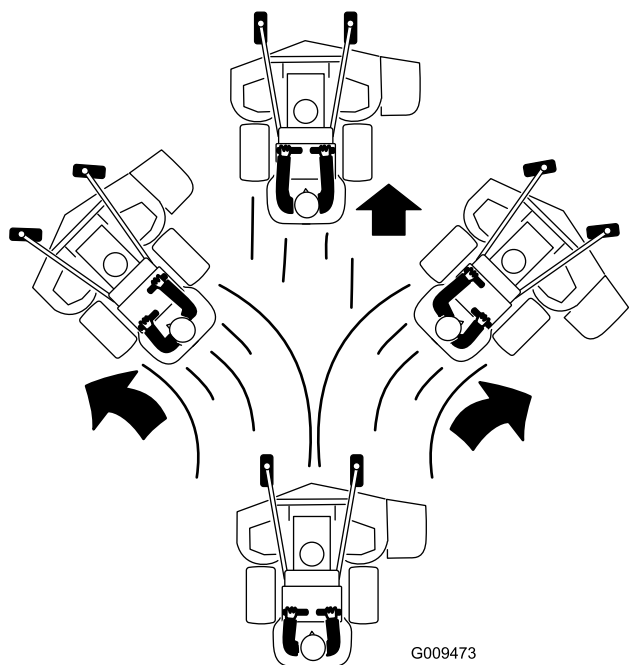

Figure 19
4. Slowly push the motion control levers forward (Figure 19).